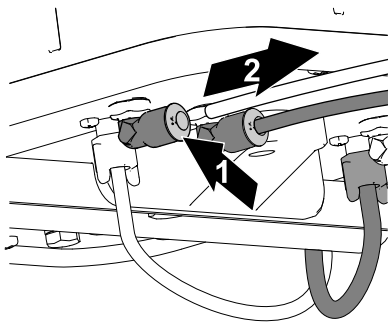

Figure 15
2. Press in the locking collar (Figure 15).
3. Pull out the tube from the fitting (Figure 15).